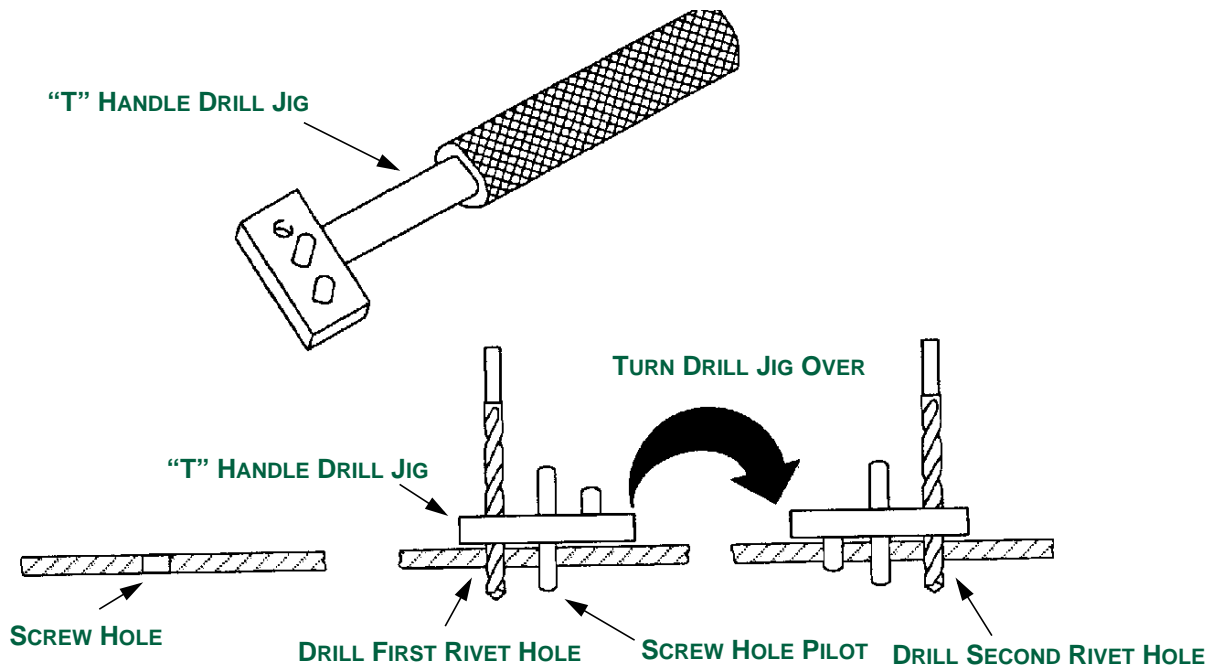

FIGURE 7 - TYPICAL USE OF “T” HANDLE DRILL JIG
- Step 1. Insert the screw pilot of the “T” handle drill jig into the screw pilot hole (**standard** installation) or full size screw hole (**dimensioned** hole installation) as shown in Figure 7.